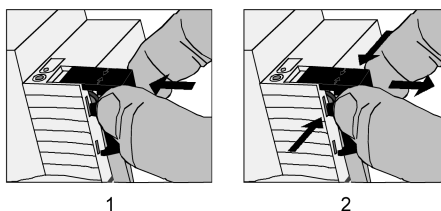

Figure 8: Installing / removing the protective cap for the bus connection
- To install the cap: slide the cap over the bus connecting terminal until you feel it engage (Figure 8).
- To remove the cap: Remove the cap by pressing the sides slightly and by pulling it out to the front (Figure 8).